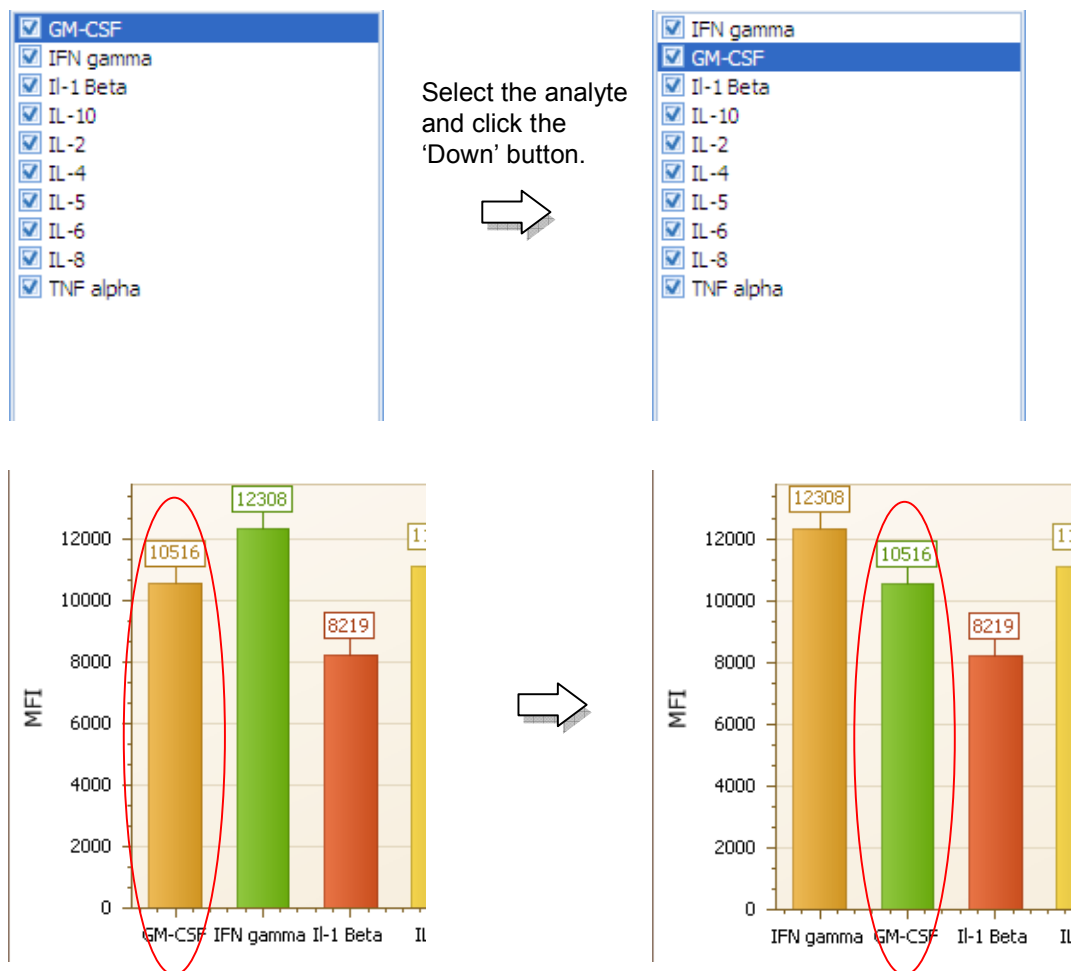

Figure 7.7 Change the analyte position
- ⇒ The analyte moves one position to the left (or right) from its current position (Figure 7.7).